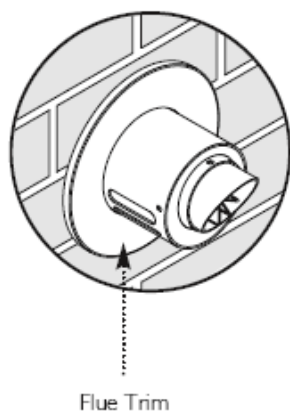

Fig. 30
12. The flue trim should be fitted once the installation is complete and the flue secure (Fig. 30).